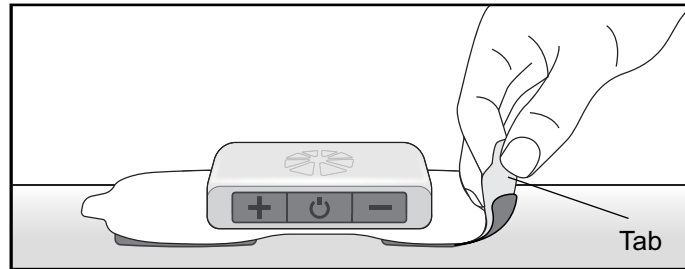

Figure 7-20: Grasp the tab on the Gel Electrode to remove.
- 2. Grasp the tab on the Gel Electrode and gently pull the electrode away from the skin. See Figure 7-20.
**⚠ WARNING:** Do not grasp the gel pads on the back of the electrode. See Figure 7-20. If stimulation is not turned off and the gel pads are touched, electrical shock could occur.